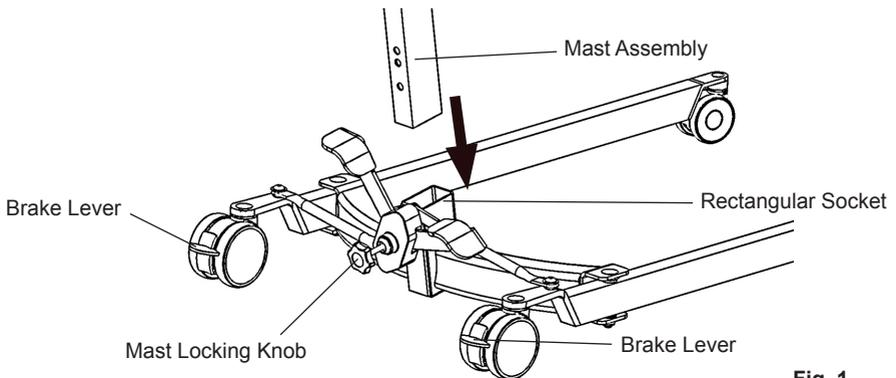

Fig. 1
2. Apply the rear castor brakes by pushing the brake levers (Fig. 1) downwards.
3. Fit the mast assembly to the chassis. The mast is located into the rectangular socket on the top center of the chassis. (Fig. 1 - manual leg model shown).
4. When the mast is fully engaged within the socket, turn the mast locking knob (Fig. 1) clockwise, until fully tightened.